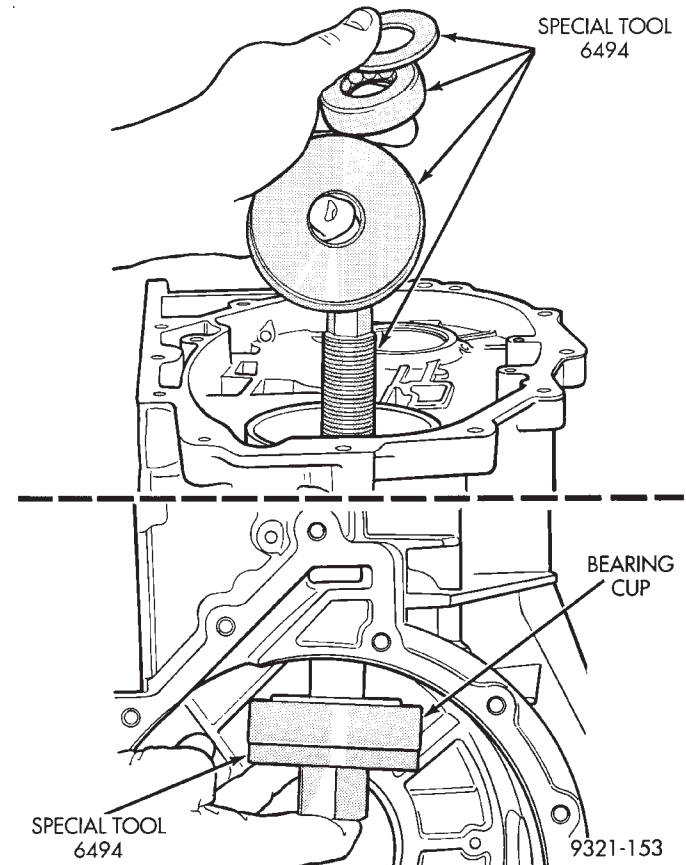

Fig. 300 Install Front Transfer Shaft Cup
(1) Install front transfer shaft bearing cup (Fig. 300). The transfer shaft bearing cup must be installed before making pinion depth measurement. Use special tool 6494 to install bearing cup. There are no shims located behind this bearing cup.